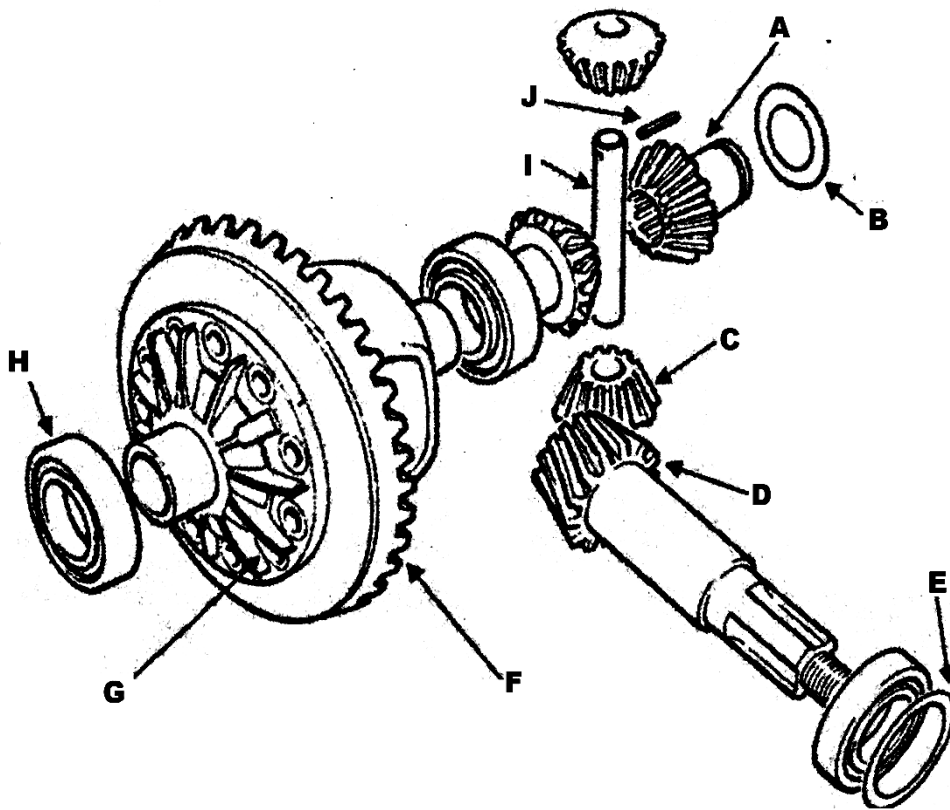

FIGURE 1
- 3.5 ✨ FIGURE 1 below shows a final drive and differential. Name the parts labelled (A–J) in the ANSWER BOOK. (4)